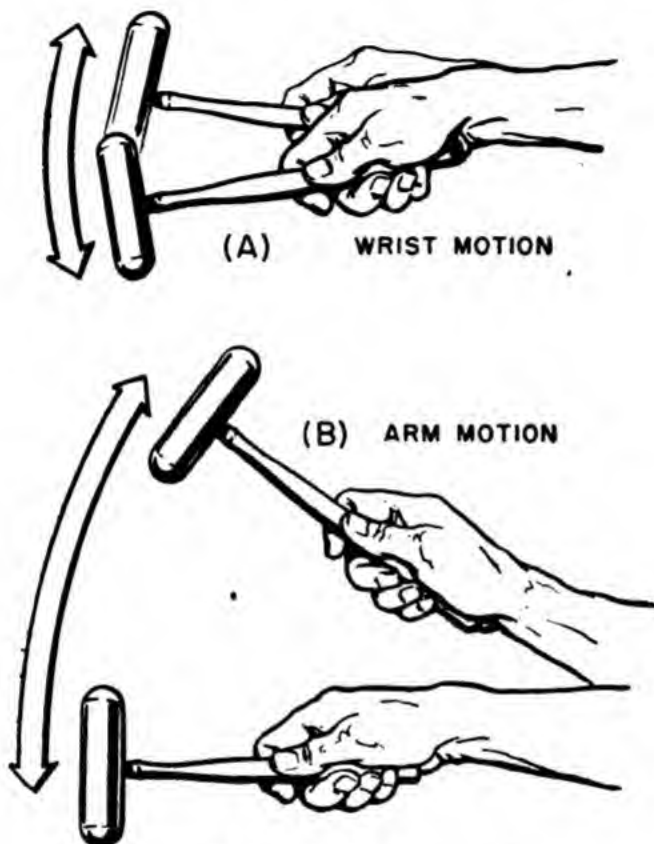

Figure 40.—Using a mallet.
cided upon. To accomplish this you must have good control over the striking power of the mallet. The swinging motion of your arm governs the force of the blow. If you want to strike a light blow, use only **WRIST** action as in (A) of figure 40. (B) shows the